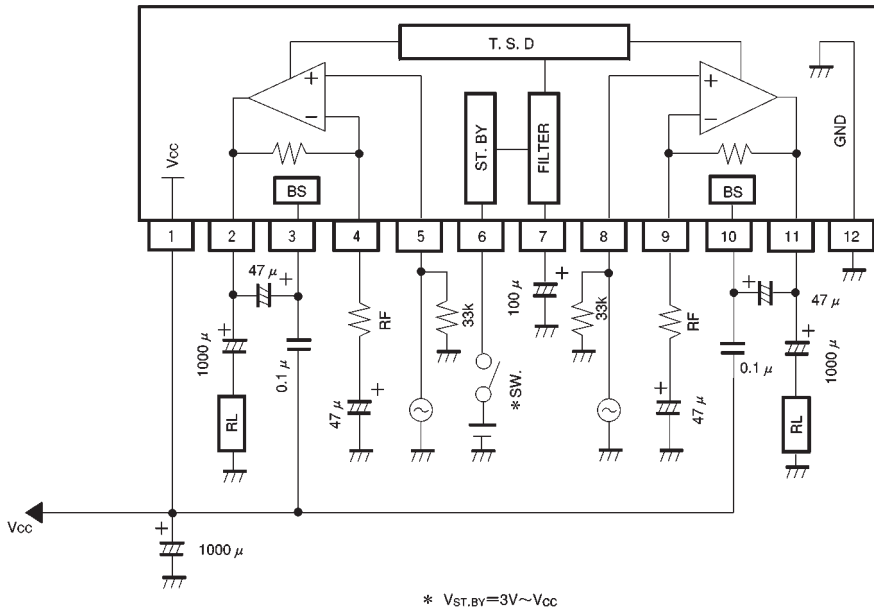

Fig.1
(10) Standard values for the DC voltages on each pin ( $V_{CC} = 12V$ ,  $T_a = 25^{\circ}C$ , measurement circuit: Fig. 1)